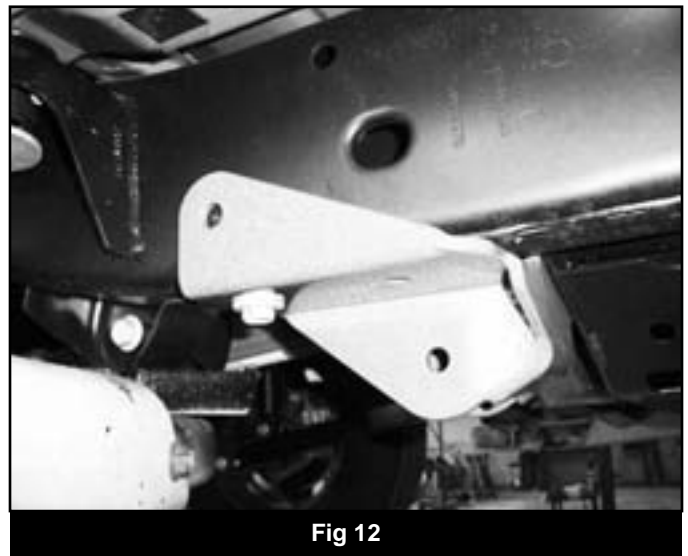

Fig 12
26. With the bracket positioned flush to all the mounting surfaces, mark the outer mounting hole to be drilled in the frame (Fig 12). Remove the bracket and drill a 1/2" hole at the mark.